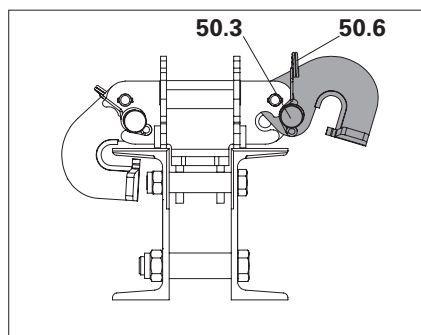

Fig. D5.03
4. Re-insert safety pins (50.3) in the opened position; place the locking spring (50.6) only loosely on the guiding skid. (Fig. D5.03 + D5.03a)